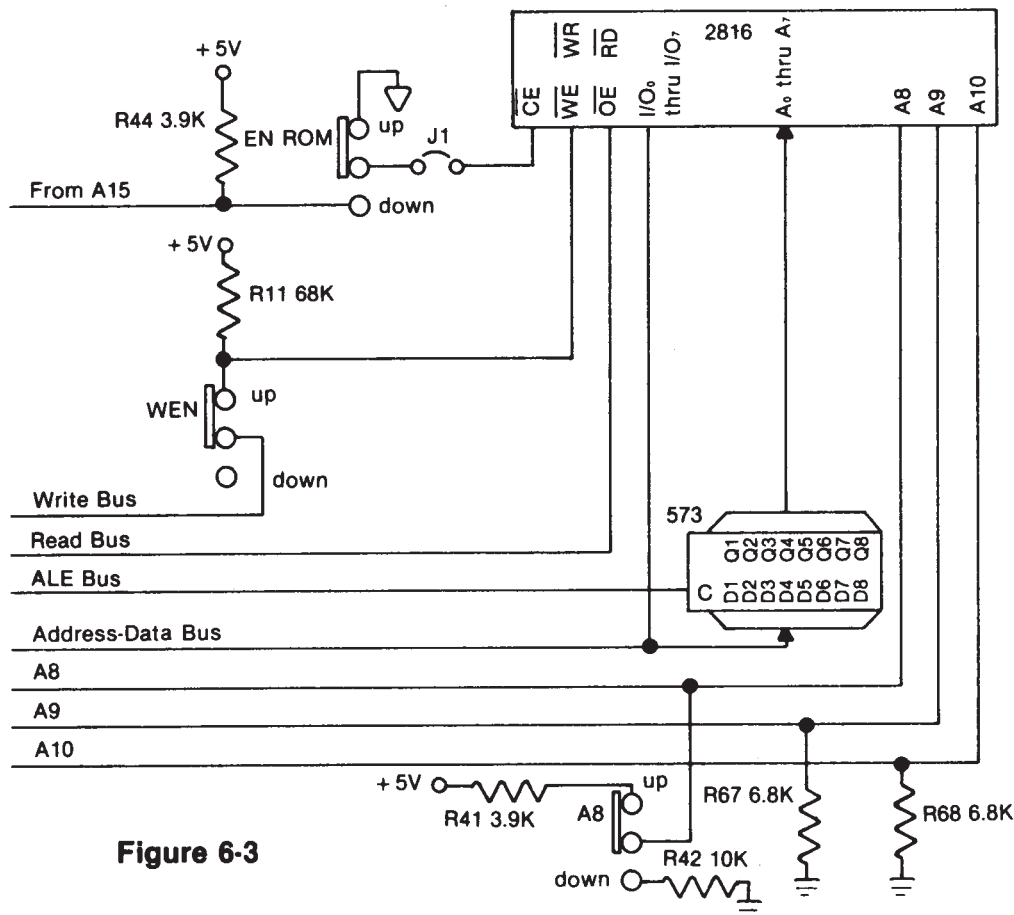

Figure 6-3
Figure 6-3 shows the components added in lesson 6. The 74HCT573 is an Octal D Type Transparent Latch which consist of 8 independent latches controlled by a control input (C). When C is high, the latches are transparent. A high on any D input will result in a high on the corresponding Q output. A low on a D input will likewise result in a low on the corresponding Q output. When C goes low, the data that was then present in the latch is retained on the Q outputs regardless of any later changes of the D input. The ALE bus is connected to the C input of the 74HCT573 integrated circuit. When the ALE key is pressed, the ALE bus goes high and the LSB of the address on the address-data bus is passed through the transparent latches to the address inputs A0 thru A7 of the 2816. When the ALE button is released, the address is retained at the A0 thru A7 inputs. The address-data bus is then free to pass data to or from the 2816. Address Lines A8, A9 and A10 are connected to the appropriate pins of the 2816. In a later lesson they will also be connected to the 8085 microprocessor. In this lesson, A9 and A10 are biased to a low voltage (0) through resistors R67 and R68. Line A8 is connected to the center of the A8 switch. When the switch is up, a high voltage (1) is applied to A8 through resistor R41. When the switch is down, a low voltage (0) is applied to A8 through resistor R42.